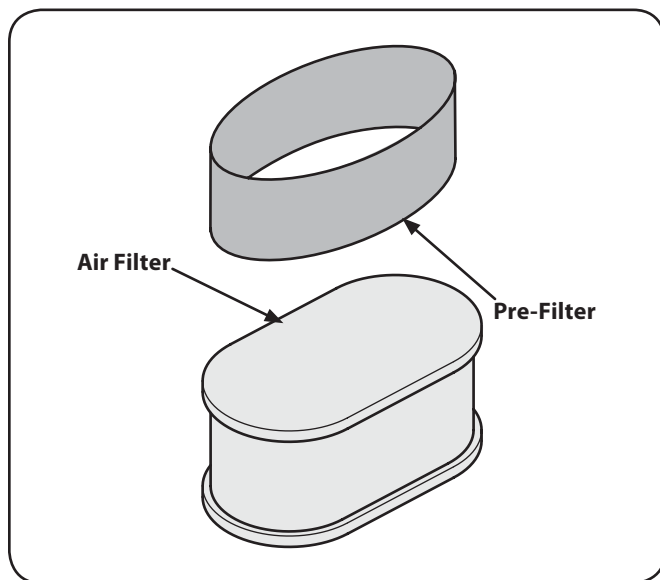

Figure 6-6
3. Remove the foam pre-filter from around the paper air filter. See Fig. 6-6. Replace paper element when dirty or damaged. Clean foam element or replace when damaged.